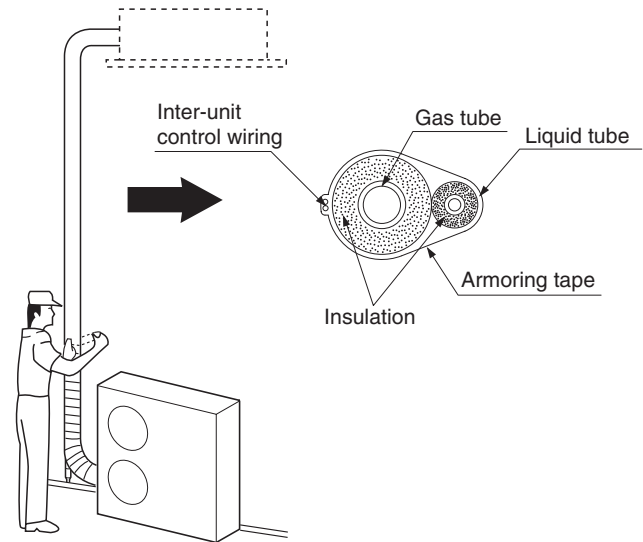

Fig. 1-120
- (1) At this time, the refrigerant tubes (and electrical wiring if local codes permit) should be taped together with armoring tape in 1 bundle. To prevent condensation from overflowing the drain pan, keep the drain hose separate from the refrigerant tubing.
- (2) Wrap the armoring tape from the bottom of the outdoor unit to the top of the tubing where it enters the wall. As you wrap the tubing, overlap half of each previous tape turn.
- (3) Clamp the tubing bundle to the wall, using 1 clamp approx. each meter (3 feet). (Fig. 1-120)